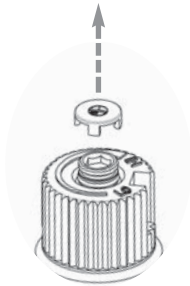

Fig. 1
- 10) Remove the black protection cap by hand from the high-low knob (Fig.1).